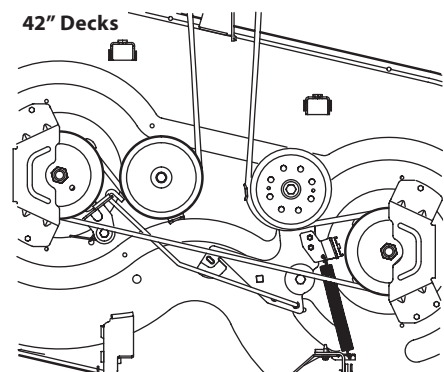
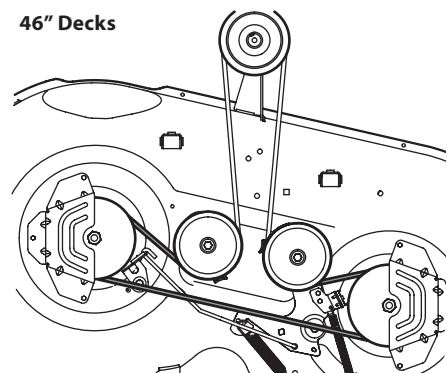
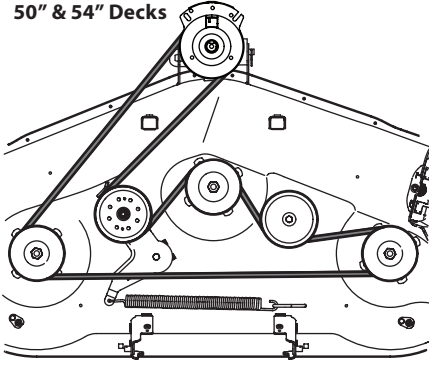

Figure 4-17
Figure 4-18
Figure 4-19
4. Route the new belt as shown in the applicable figure on the following pages. See Figure 4-17 for 42" decks, Figure 4-18 for 46" decks and Figure 4-19 for 50" & 54" decks.